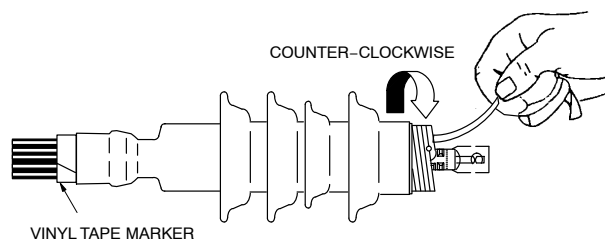

FIGURE 5
8. Position the terminator body on the cable. The base of the terminator body (not the core), must be butted up to the edge of the vinyl marker tape. Remove the core while unwinding in a counter-clockwise direction. Once the terminator body has made contact over the mastic seal area, there is no need to continue supporting the assembly. DO NOT push or pull the terminator while unwinding the core. See Figure 5.